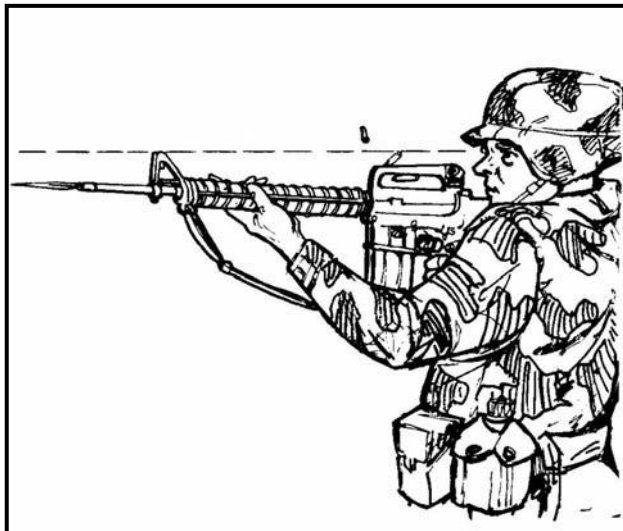

Figure 7-15. Aimed quick fire.
(1) *Aimed*. When presented with a target, the soldier brings the rifle up to his shoulder and quickly fires a single shot. His firing eye looks through or just over the rear sight aperture. He uses the front sight post to aim at the target (Figure 7-15). Using this technique, a target at 25 meters or less may be accurately engaged in one second or less.